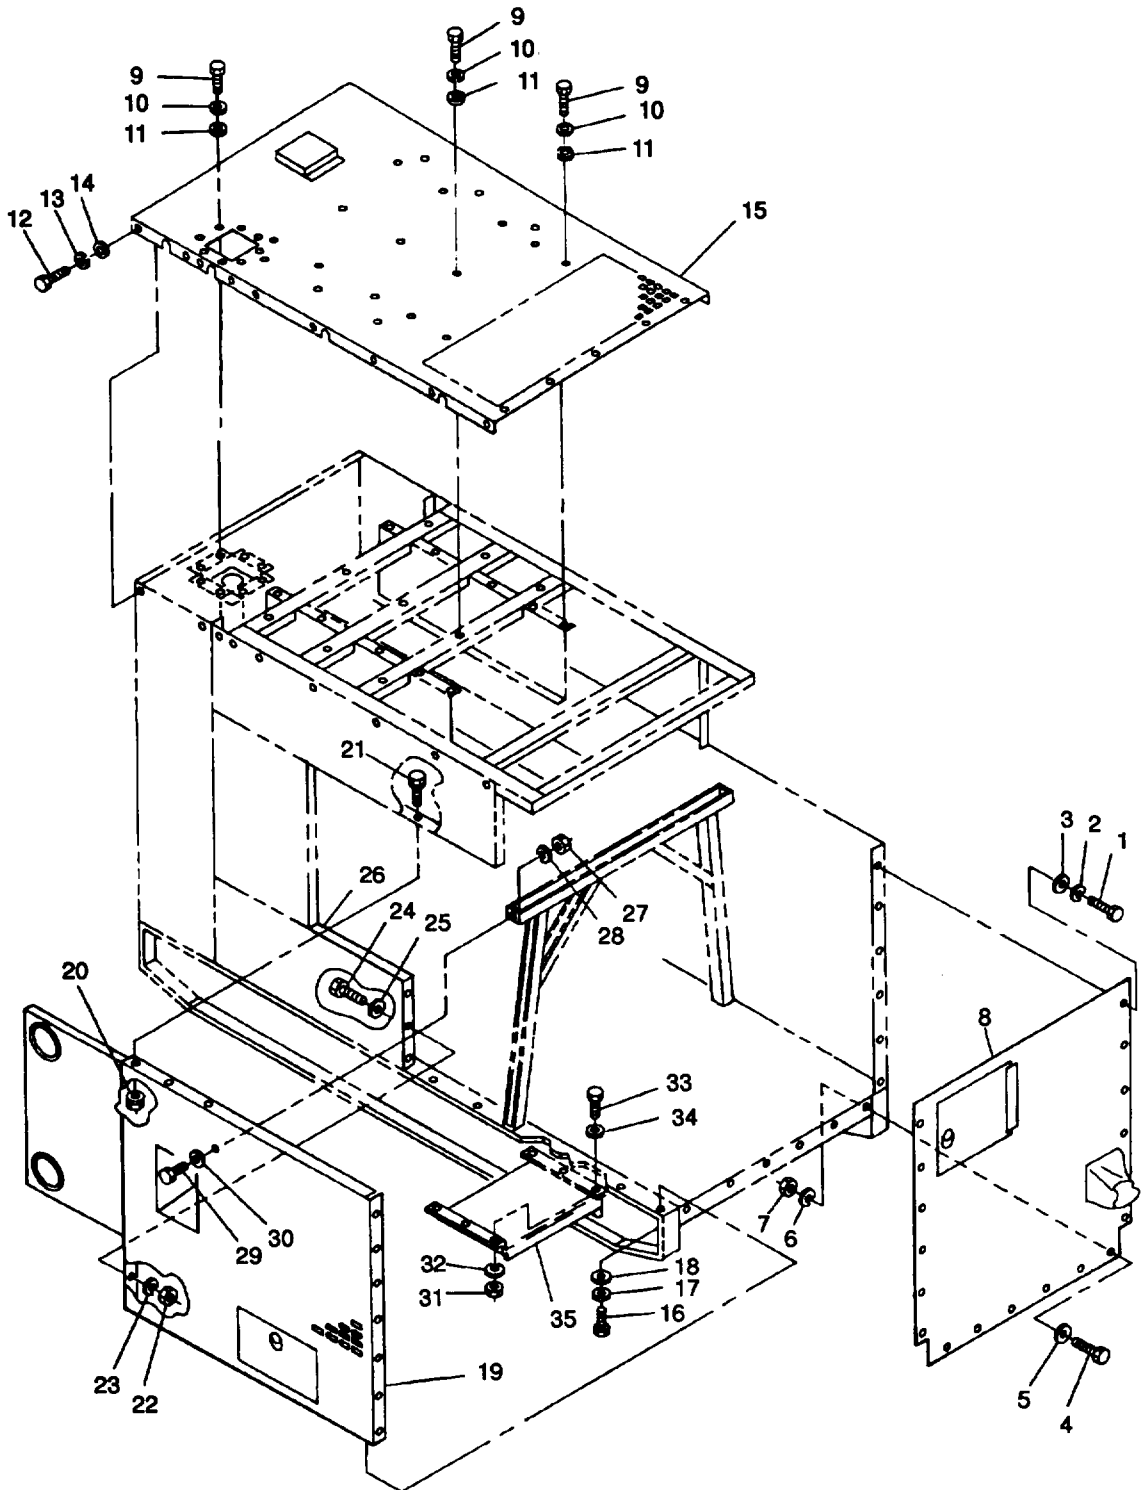
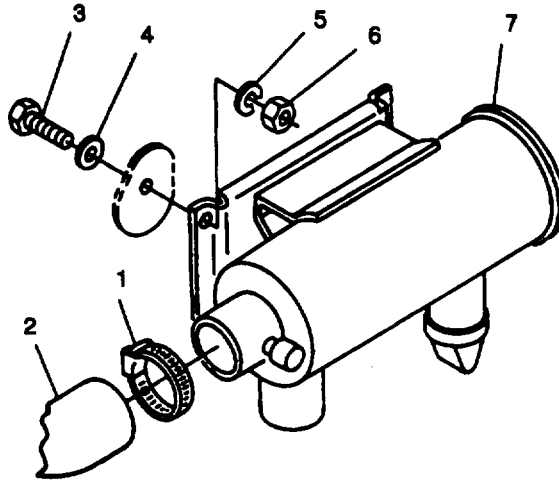
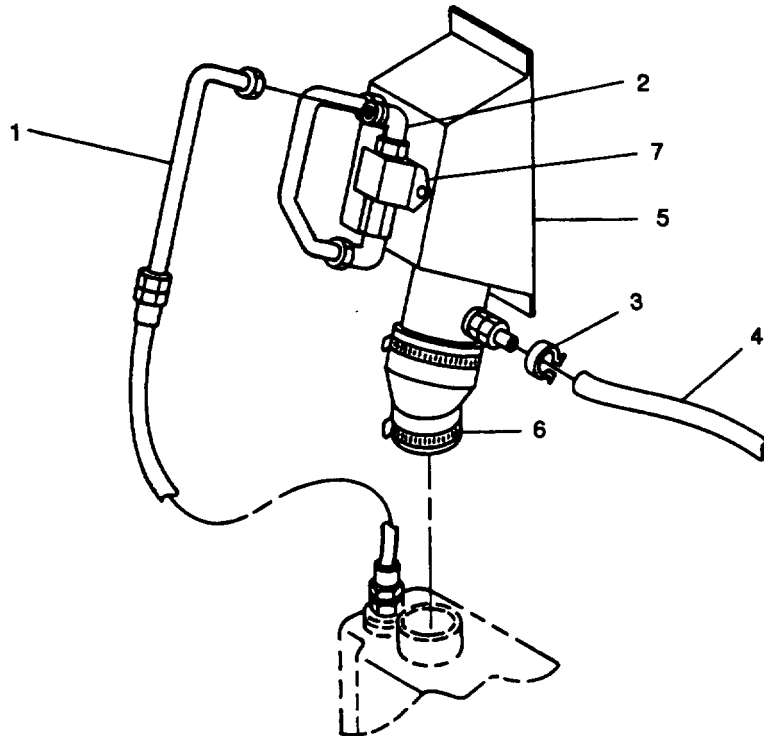
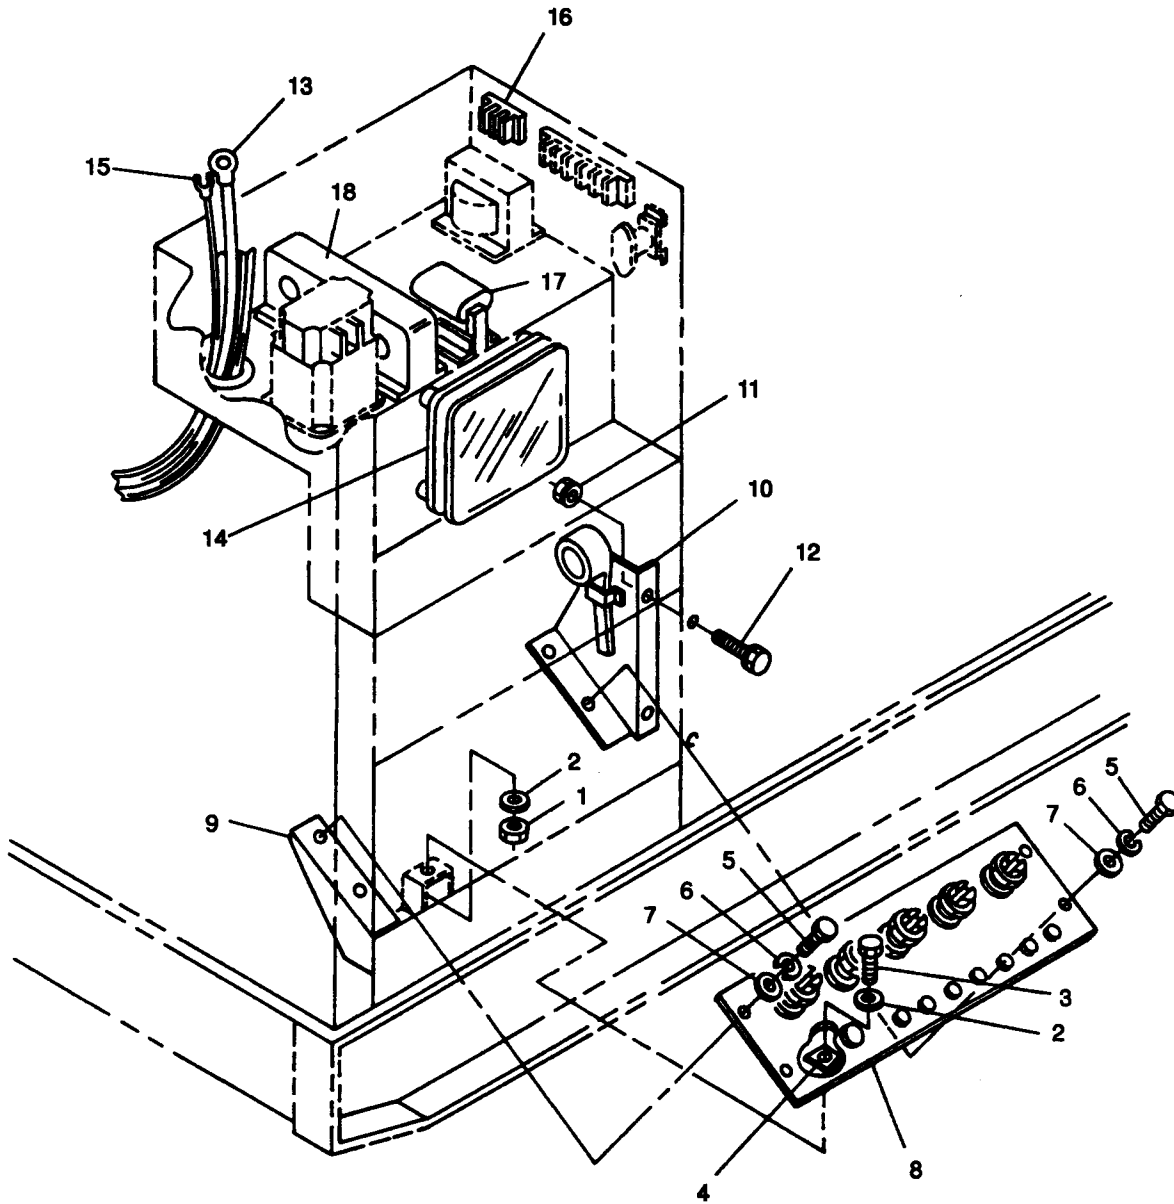

FIGURE 4-11. Generator Set Housing and Rear Forklift Guide
FIGURE 4-12. Air Cleaner Assembly
FIGURE 4-13. Fuel Filler Panel Assembly
FIGURE 4-14. Load Output Terminal Board and Main Generator Cables
- d. Remove bolts (1 and 4, FIGURE 4-11), washers (3) and (5), lockwashers (2) and (6), nuts (7), and rear housing panel (8) from generator set.
- e. Loosen damp (1, FIGURE 4-12) and remove hose (2) from air deaner assembly (7).
- f. Remove bolts (3), washers (4), lockwashers (5), nuts (6), and air cleaner assembly (7) from generator set.
- g. Disconnect fuel line (1, FIGURE 4-13) from auxiliary fuel pump fitting (2). Cap openings.
- h. Remove damp (3) and disconnect hose (4) from fuel filler panel assembly (5). Cap openings.
- i. Loosen clamp (6) securing fuel filler panel assembly (5) to fuel tank. Cap openings.
- j. Tag and disconnect auxiliary fuel pump (7) electrical connector.
- k. Remove bolts (9 and 12, FIGURE 4-11), lockwashers (10) and (13), washers (11) and (14), and top housing panel (15) from generator set.
- l. Remove bolts (16), lockwashers (17), and washers (18) securing left rear side panel (19) to skid base.
- m. Remove assembled nuts (20) and bolts (21) securing top housing section to left rear side panel (19).
- n. Remove nuts (22), lockwashers (23), bolts (24), and washers (25) securing lower left side panel (26) to left rear side panel (19).
- o. Remove nut (27), lockwasher (28), bolt (29), and washer (30) securing rear housing side panel (19) to engine support frame. With aid of an assistant, remove left rear side housing panel (19), with left rear engine access door attached, from generator set.
- p. Remove nut (1, FIGURE 4-14), lockwashers (2), and bolt (3) securing ground strap (4) to skid base.
- q. Remove bolts (5), washers (7), and lockwashers (6) securing load output terminal board assembly (8) to supports (9) and (10).
- r. Remove assembled nuts (11), bolts (12), and support (10) from right rear side panel.
- s. Tag and disconnect main generator cables (13) from voltage reconnection terminal board (14), and exciter leads (15) from terminal board (16).
- w. Remove nuts (31, FIGURE 4-11), lockwashers (32), bolts (33), washers (34), and rear forklift guide (35) from skid base.
- e. Position generator on skid base aligning mounting holes with mounts and engine flywheel housing adapter (23).
- f. Install bolts (8), washers (9), and lockwashers (10), tightening bolts (8) slowly to ensure even and proper seating of generator case lip to engine flywheel housing adapter (23). Torque bolts (8) to 25 ft-lbs (34 Nm).
- g.. Install bolts (14), Belleville washers (15), snubbing washers (13), washers (12), and nuts (11) securing generator assembly to skid base. Torque nuts (11) to 210 ft-lbs (285 Nm).
- h.. Install bolts (6) and washers (7) securing generator drive disc to engine flywheel. Torque bolts (6) to 35 ft-lbs (47 Nm).
- i. Install screen/cover (5) on generator case with screws (3), washers (4), lockwashers (2), and nuts (1).
- j. Adjust nuts (17) on generator mount, to obtain 0.5 in. (12.7 mm) minimum clearance between ends of bolts (19) and skid base. Torque nuts (17) to 150 ft-lbs (203 Nm).
- k. Loosen nut (24), adjust bolt (25) until 0.25 in. (6.4 mm) protrudes past bracket (27). Tighten nut (24).
- l. Install rear forklift guide (35, FIGURE 4-11) in skid base with bolts (33), washers (34), lockwashers (32), and nuts (31).
- m.. Install main generator cables (13, FIGURE 4-14) and exciter leads (15) through bottom of output box assembly.
- n. Wrap main generator cables (13) through droop current transformer (17) and current transformer (18). Connect main generator cables (13) to voltage reconnection terminal board (14), connect exciter leads (15) to terminal board (16), and remove tags.
- p. Install support (10) on right rear side panel with bolts (12) and assembled nuts (11).
- q. Secure load output terminal board assembly (8) to supports (9) and (10) with bolts (5), washers (7), and lockwashers (6).
- r. Secure ground strap (4) to skid base with bolt (3), lockwashers (2), and nut (1).